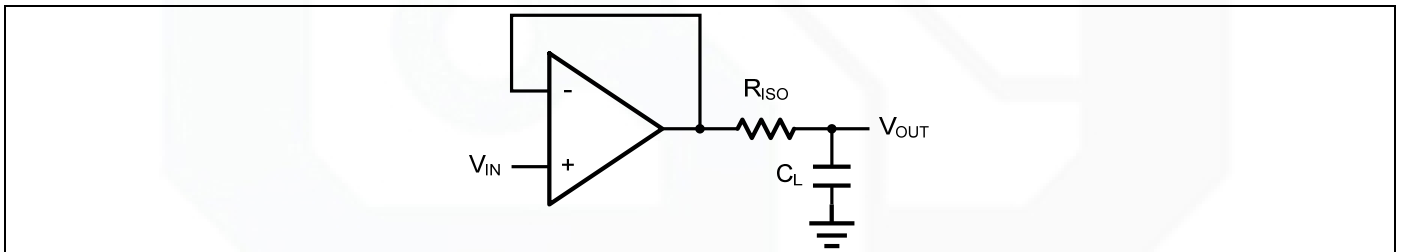
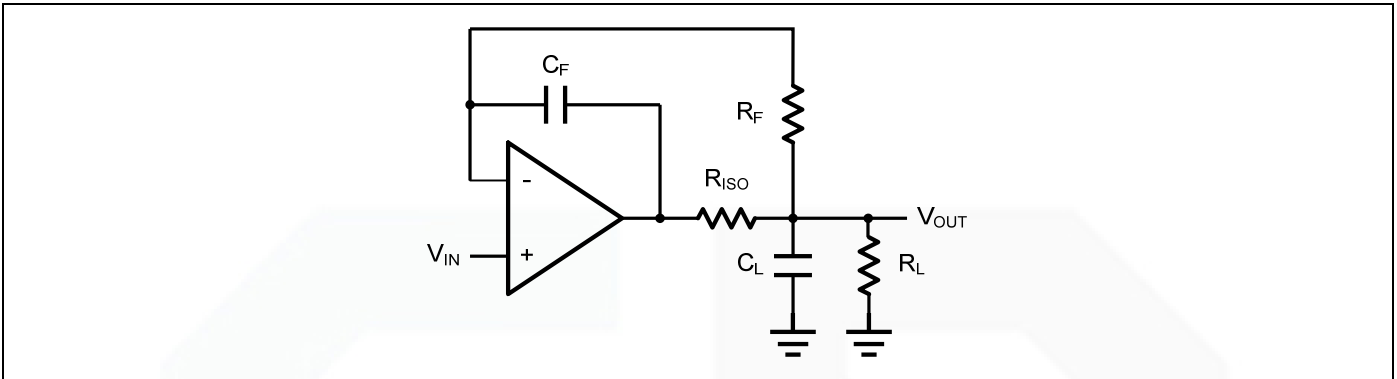

Figure 2. Indirectly Driving a Capacitive Load Using Isolation Resistor
Figure 3. Indirectly Driving a Capacitive Load with DC Accuracy
The LM321/358/324 family is optimized for bandwidth and speed, not for driving capacitive loads. Output capacitance will create a pole in the amplifier's feedback path, leading to excessive peaking and potential oscillation. If dealing with load capacitance is a requirement of the application, the two strategies to consider are (1) using a small resistor in series with the amplifier's output and the load capacitance and (2) reducing the bandwidth of the amplifier's feedback loop by increasing the overall noise gain. Figure 2. shows a unity gain follower using the series resistor strategy. The resistor isolates the output from the capacitance and, more importantly, creates a zero in the feedback path that compensates for the pole created by the output capacitance.
The circuit in Figure 3 is an improvement to the one in Figure 2.  $R_F$  provides the DC accuracy by feed-forward the  $V_{IN}$  to  $R_L$ .  $C_F$  and  $R_{ISO}$  serve to counteract the loss of phase margin by feeding the high frequency component of the output signal back to the amplifier's inverting input, thereby preserving the phase margin in the overall feedback loop. Capacitive drive can be increased by increasing the value of  $C_F$ . This in turn will slow down the pulse response.